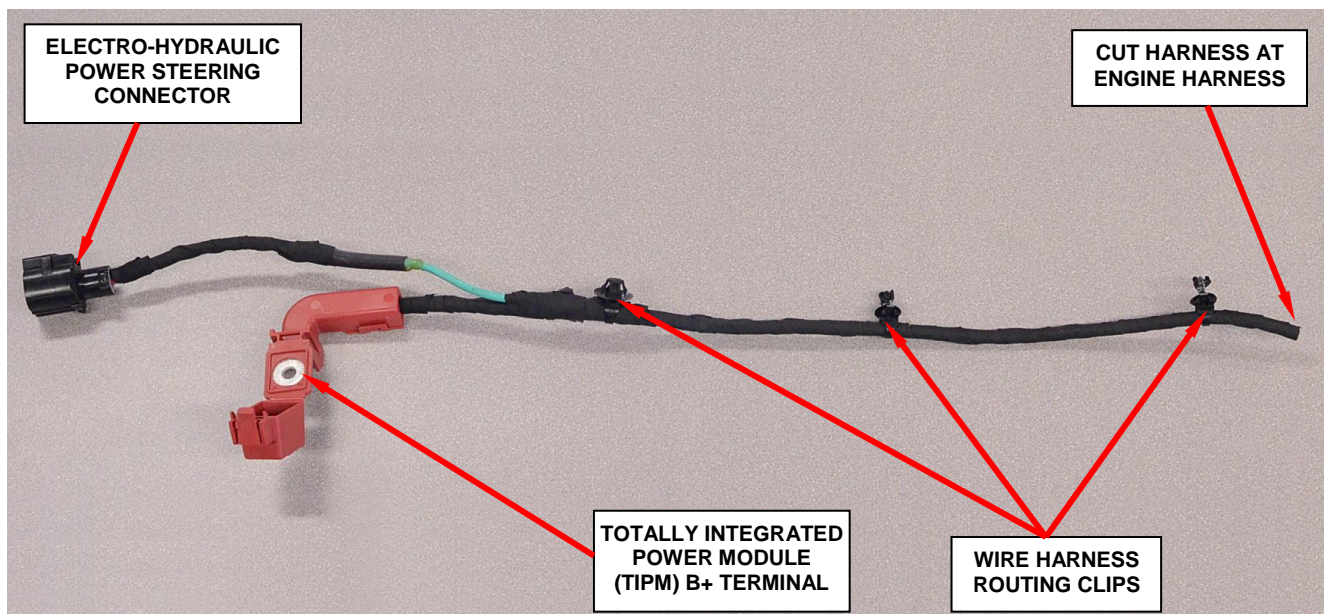

Figure 2 – Cut Off the TIPM/EHPS Wire Harness
5. Disengage the TIPM/EHPS wire routing clips along the passenger shock tower (Figure 2).
6. Using a high speed cut-off wheel, cut off the TIPM/EHPS wire harness where it meets the main engine wire harness (Figure 2).